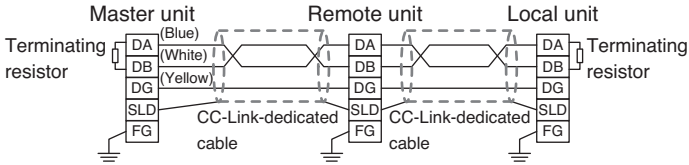

Figure 2
- (2)A bus termination is required at both ends of the CC-Link bus segment as shown in Figure 2.